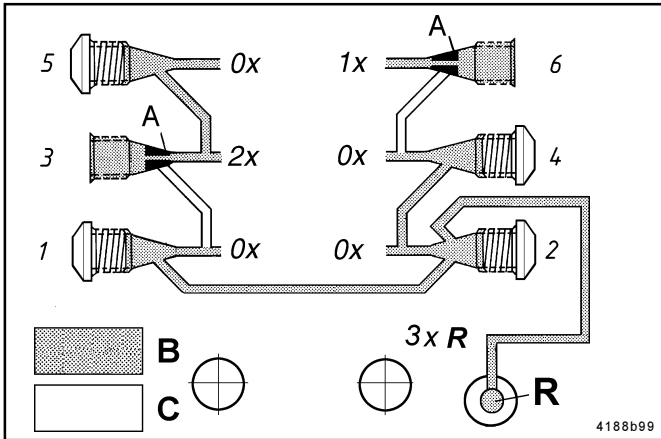

Fig. 4 - Internal return of supplied lubricant on back-mounted SSV divider blocks
- This happens automatically if **outlet 2** is closed with a closure plug (fig. 4). Lubricant quantities from **even and odd outlets can be fed back to the reservoir by combining the outlets 1 and 2**.
- To feed back lubricant, always start with the lowest outlet numbers, for instance, 2, 4, 6... or 1, 3, 5 ... **plus outlet 2**. Fig. 4 shows how the lubricant quantities of outlets 1, 2 and 4 (3xR) return to the reservoir.